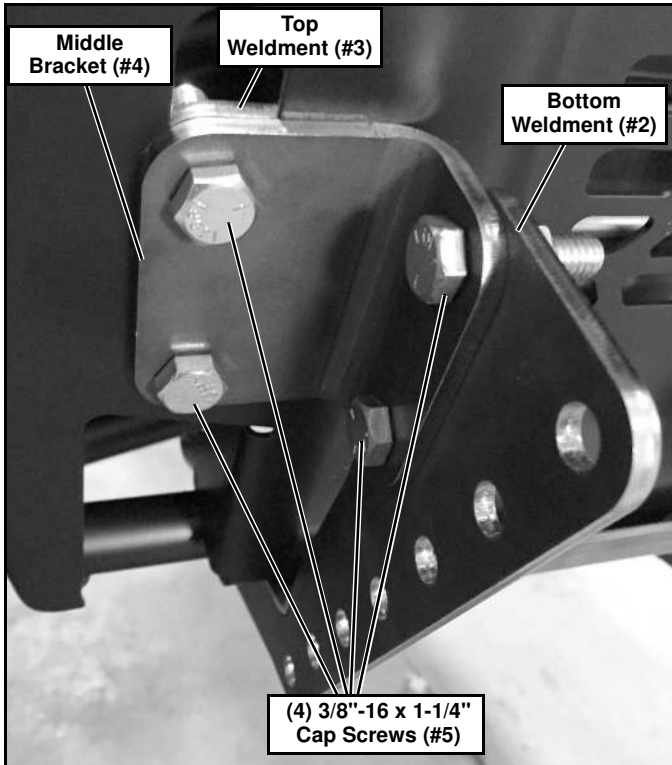

Figure 5
8. Repeat steps 6 & 7 on the Passengers Side (See Figure 5).